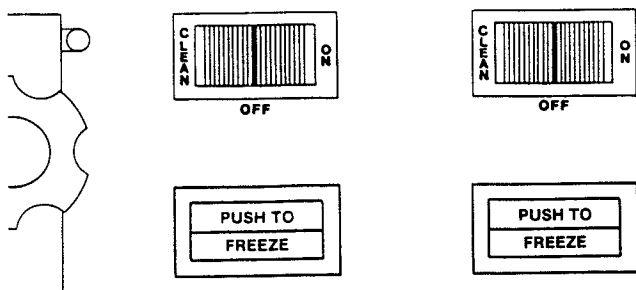

Figure 10. Clean Control
- C. Place the CLEAN-OFF-ON rocker switch in the CLEAN position. Check for leaks around the front door seal (Fig. 10).